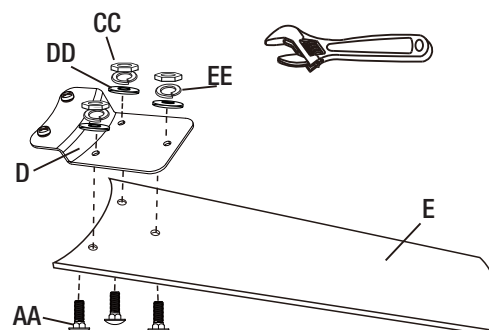

Figure 10
- Mount the blade holders (D) to the fan blades (E) using the square neck screws (AA), hex nuts (CC), spring washers (EE) and flat washers (DD) provided - 3 each per blade (Figure 10).